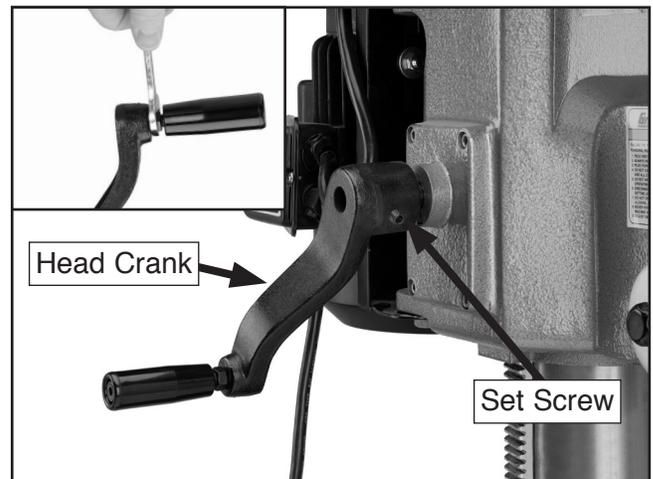

Figure 18. Head crank.
2. Slide the head crank onto the shaft, then tighten the set screw to secure it in place (**Figure 18**).